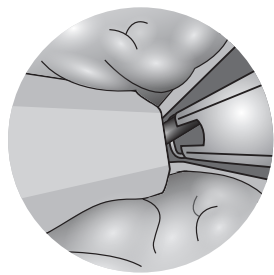

Figure 7
CAUTION: Failure to position suture against closest edge of keyhole (example shown in **Figure 7**, below) may result in Urethral End-Piece misdeployment or incomplete suture cut.
- 3.5** Press the Urethral Release button towards the telescope (**Step 4, Figure 7**) to deploy Urethral End-Piece and cut the excess suture. After the Urethral Release button is pressed, the complete implant has been deployed. If the suture is not fully cut after pressing the Urethral Release button, follow Step 5.3 to manually cut the suture. No further implants can be delivered using the same Delivery Device.